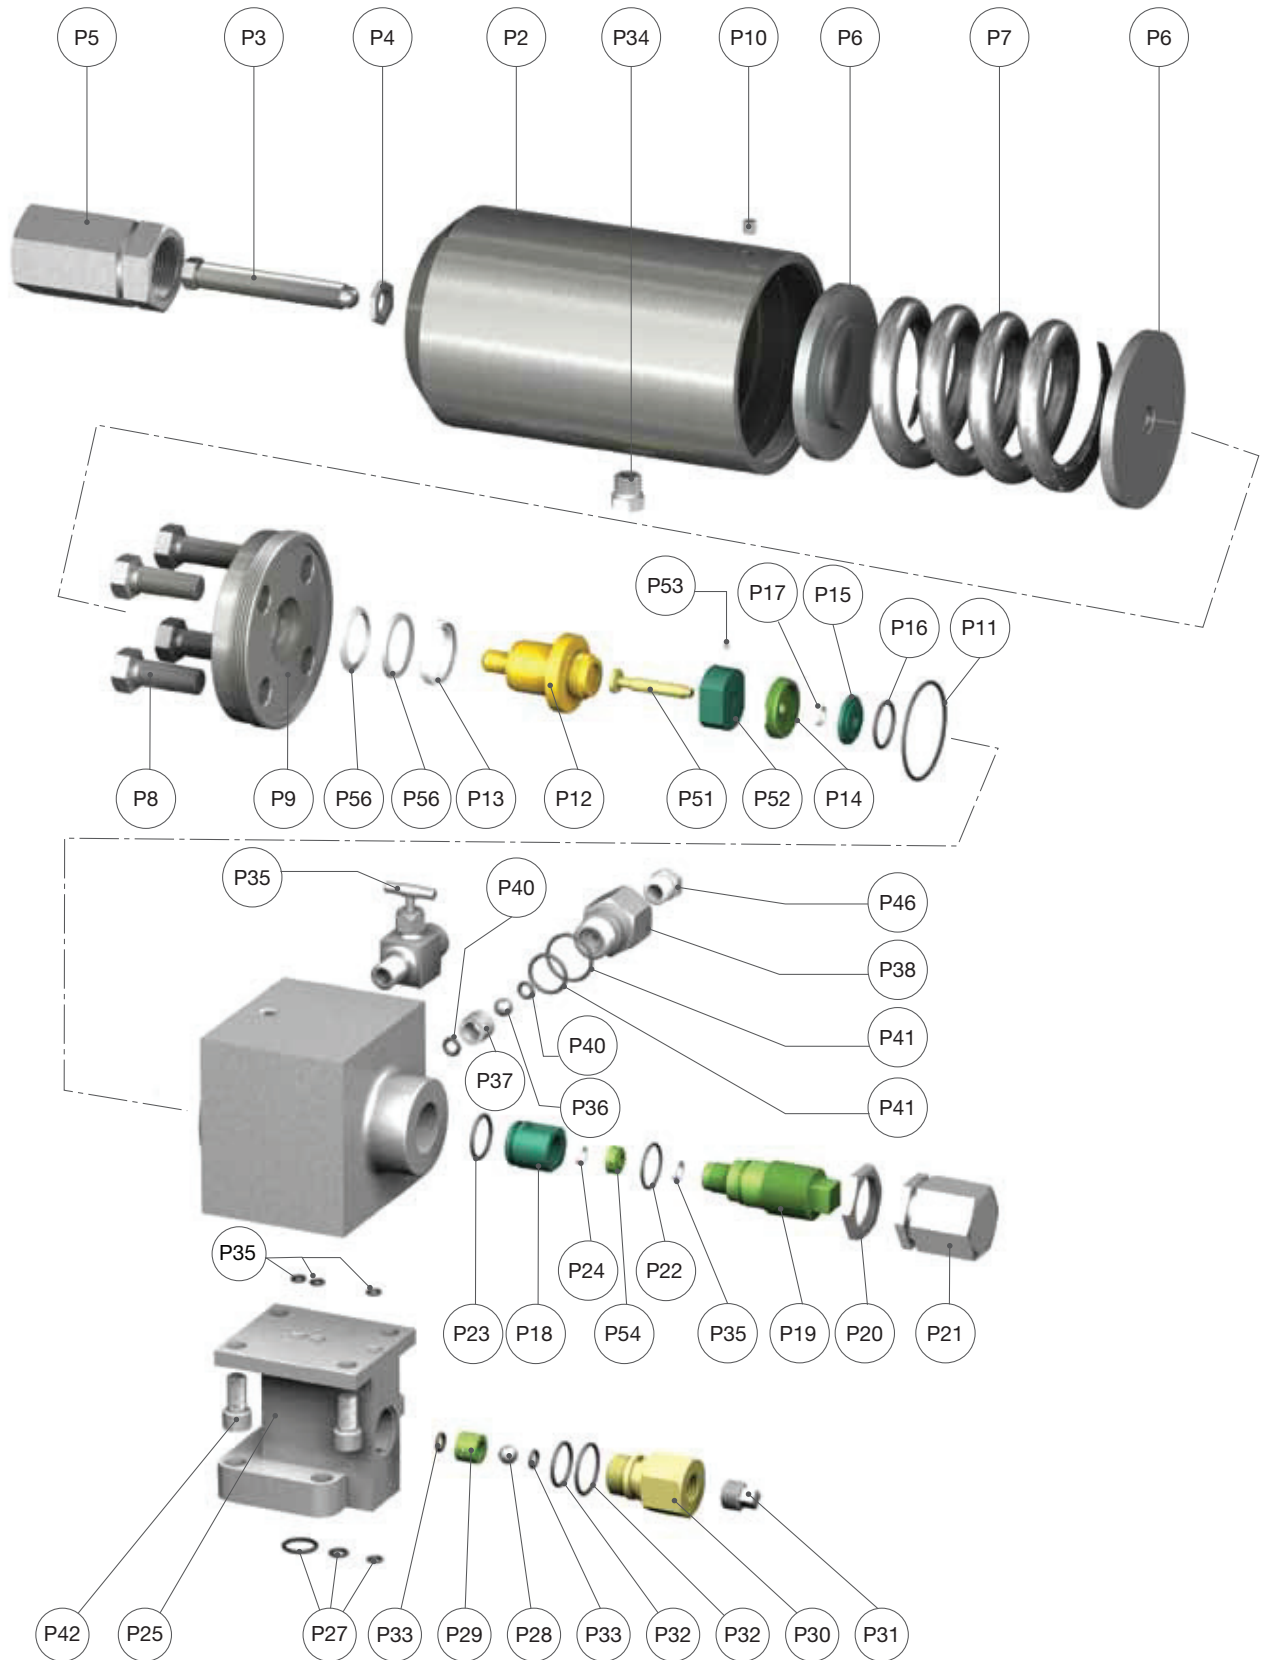

Figure 20: 49MV22 Disassembly
(Figures 20, 21, and 18)
3. If a lifting lever is installed, also use Figure 18 to remove the Lifting Lever assembly. Then return to Figure 20 or 21 to continue disassembly.